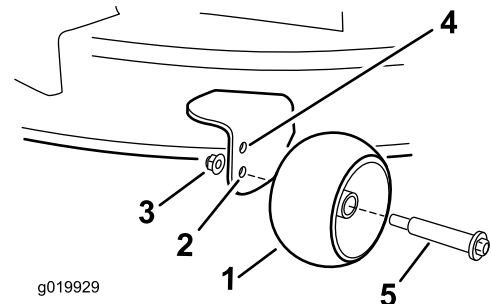

Figure 20
- Upper hole—use this position with the mower deck in the 63 mm (2-1/2 inches) and below the height-of-cut positions (Figure 20).
- Lower hole—use this position with the mower deck in the 76 mm (3 inches) and above the height-of-cut positions (Figure 20).